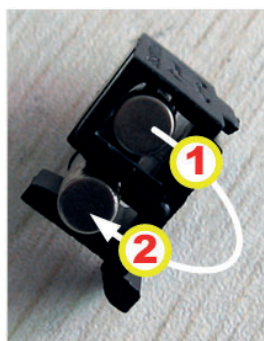

Fig. 7-2 Fuse
4. Pick out the spare fuse (Mark 1, 3.15A/250V) and replace it to the working position (Mark 2) (Figure 7-2):